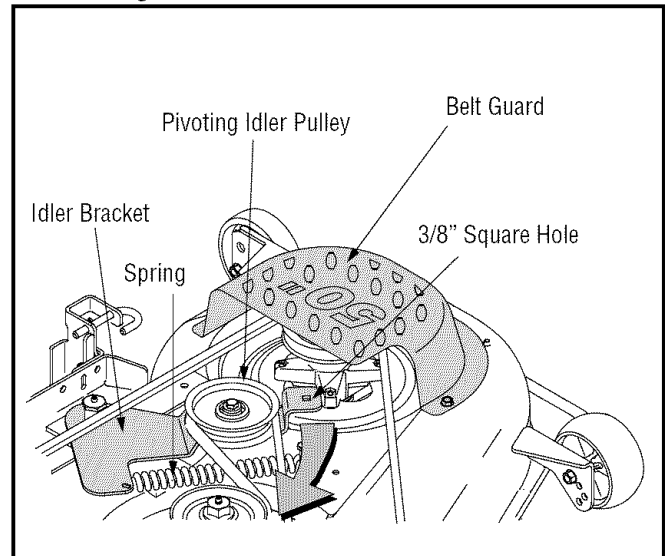

Figure 26
- To ease in removing the belt in later steps, loosen, but do not remove, the bolt which secures the pivoting idler pulley to the idler bracket. See Figure 26.
- Insert a 3/8"-drive ratchet wrench (set to *tighten*) into the square hole found in the idler bracket on the left side of the deck's surface. See Figure 26.